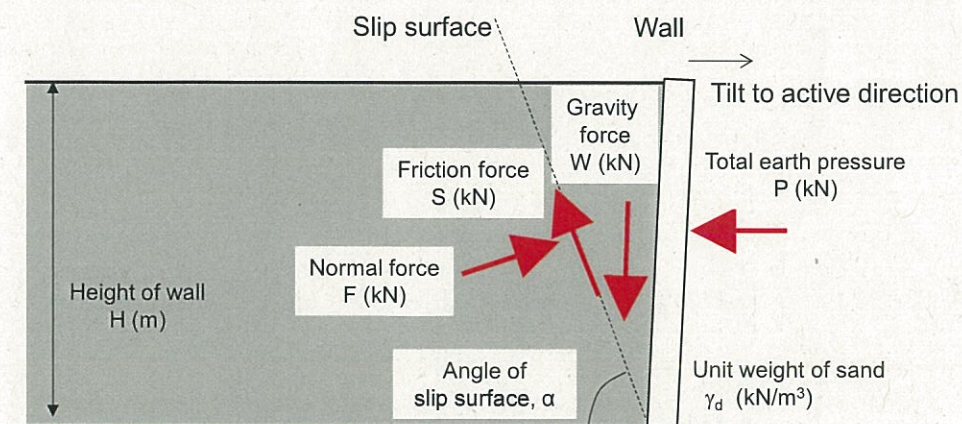

Fig. 4. Wall tilting to active direction and corresponding slip surface.
(1) Answer the following questions.
(2) Limit equilibrium method uses Coulomb's earth pressure theory to calculate the total earth pressure on a retaining wall for every 1 m of width, as well as the angle of slip surface. In Fig. 4, the wall tilts to the active direction with a hinge at its bottom. Show the process of this calculation following the questions below. The backfill soil is a dry sand with cohesion $c = 0$ (kN/m^2), friction angle $\phi > 0$, and unit weight γ_d (kN/m^3). The height of wall is H (m), and the friction between the wall and the backfill soil is ignored.